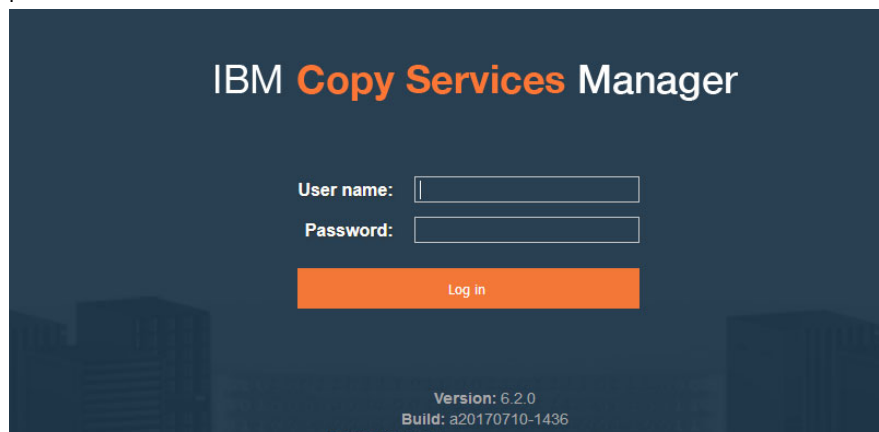

Figure 11-2 CSM window started from DS GUI
5. The Copy Services Manager (CSM) icon opens a new window to the Copy Services Management Console when CSM is installed on HMC, as shown in Figure 11-2. External CSM server is not supported currently. You need a CSM license to use the actual copy services functions. However, a license is not required if you just use CSM to enable LDAP for your DS8000 user authentication.